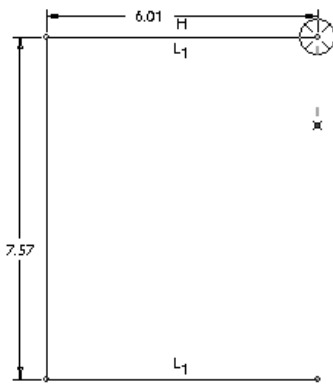

Figure 2-5 Cursor moved out of the **Target** symbol perpendicular to the endpoint
- Specify three points in the drawing area to draw an arc. If you want to draw an arc from the endpoint of an existing entity, select the endpoint of that entity. As soon as you select the endpoint, the **Target** symbol appears at the endpoint of the entity. Move the cursor along the tangent direction through a small distance, a rubber-band arc appears with one end attached to the endpoint of the entity and the other end attached to the cursor. Note that when you move the cursor out of the **Target** symbol perpendicular to the endpoint, an arc is drawn by specifying three points. In this case, the rubber-band arc does not appear, refer to Figure 2-5.